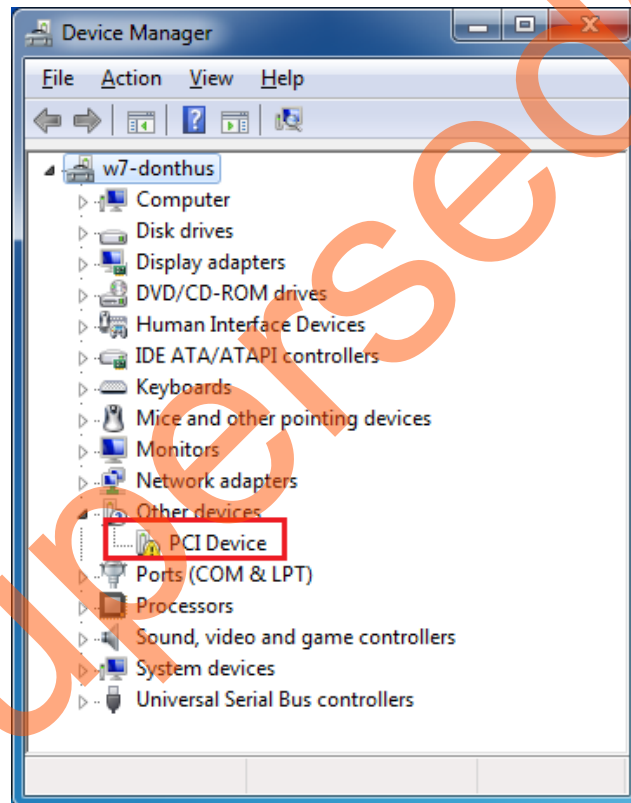

Figure 11 • Device Manager
2. Power on the Host PC and open the Host PC Device Manager for PCIe device, as shown in Figure 11. If the PCIe device is not detected, power cycle the SmartFusion2 Advanced Development Kit Board. Right-click **PCIe Device** > **Scan for hardware changes** in Device Manager.
After uninstalling previous Jungo drivers, make sure that the PCIe device is detected in the **Device Manager** window as shown in Figure 11.